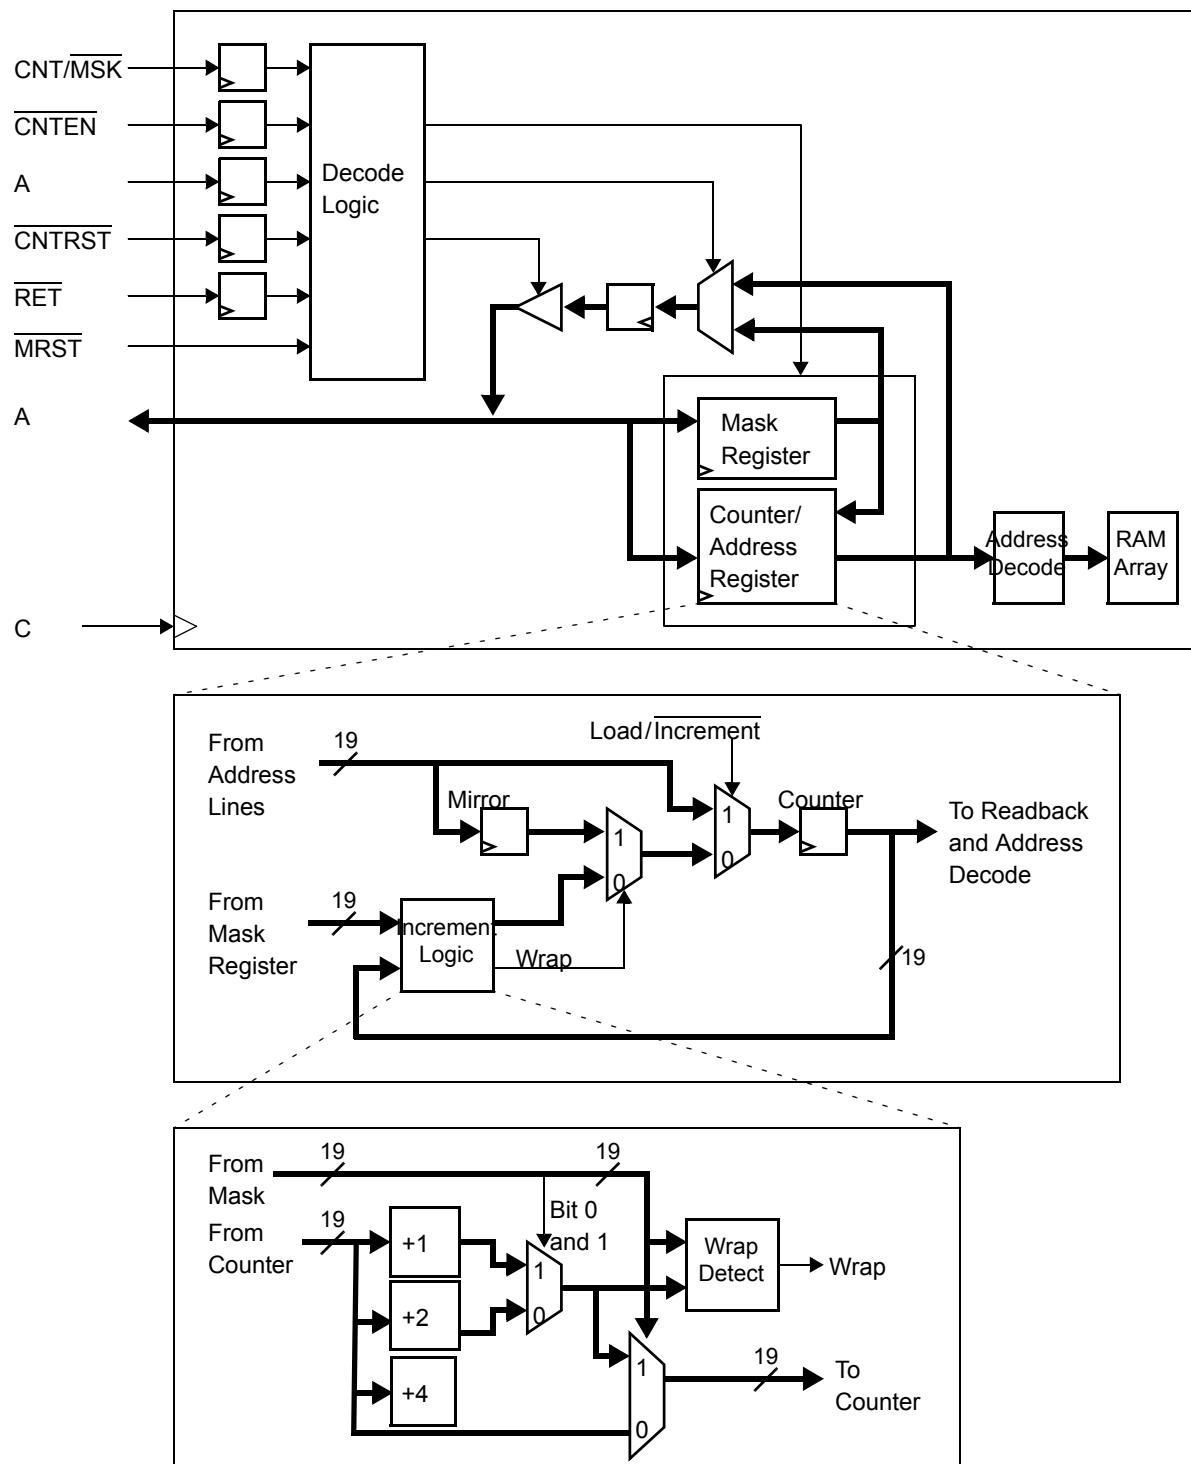

Figure 4. Counter, Mask, and Mirror Logic Block Diagram^[1]
The internal value of the counter register can be read out on the address lines. The address will be valid t_{CA} after the selected number of latency cycles configured by FTSEL. This is the same as data in SDR mode and one half cycle earlier than data latency for DDR mode. The data bus (DQ) is tri-stated on the cycle that the address is presented on the address lines. Figure 4 shows a block diagram of the logic.
The internal value of the mask register can be read out on the address lines. The address will be valid t_{CA} after the selected number of latency cycles configured by FTSEL. For pipelined SDR and DDR mode this is two cycles. The data bus (DQ) is tri-stated on the cycle that the address is presented on the address lines. Figure 4 shows a block diagram of the operation.